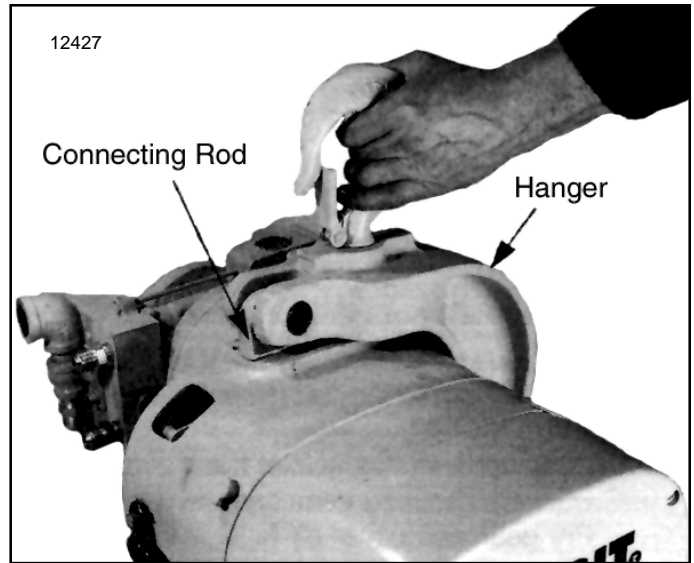
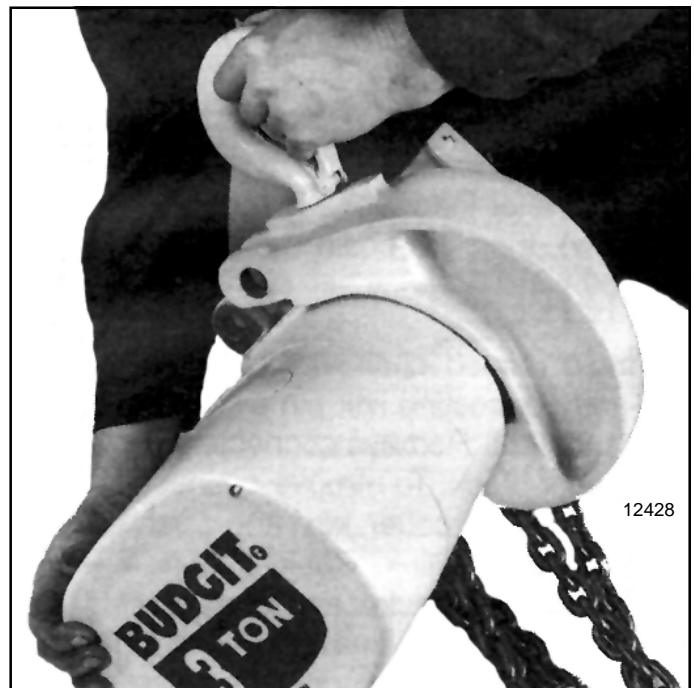
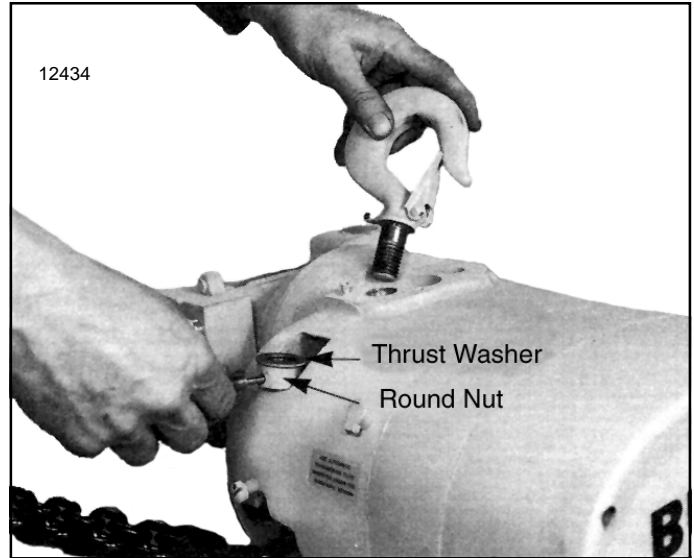

Figure 7-1. 3 Ton Hanger Bracket Connection Pin Removed
Figure 7-2. Removing 3 Ton Hanger Bracket from Hoist Frame
Figure 7-15. Removing Upper Hook and Hook Nut From Hoist Frame (Single Reeved Models)
(4) To remove hanger bracket from triple reeved hoist, remove retaining ring and connecting rod pin (see Figure 7-1). Rotate hoist approximately 45° (see Figure 7-2) and hanger will slip free from hoist frame.
(1) On single reeved models, drive pin from hook nut using drift punch and unscrew upper hook. Nut is reached through access hole in side of hoist frame. See Figure 7-15.
(3) On tripled reeved models, remove retaining ring from connecting rod pin and push connecting rod pin through bracket and connecting rod, releasing hanger (see Figure 7-1). Raise hanger above hoist frame to provide access to hook nut. Rotate hook until grooved pin in nut is visible from end of hanger frame. Using a drift punch, drive grooved pin through hook nut until it hits hanger pocket. Remove drift punch far enough to hold nut from turning and unscrew hook from nut. Thrust washer will fall free.
(4) To remove connecting rod (Figure 7-1) on tripled reeved hoist drive pin from rod using drift punch and unscrew connecting rod. Nut is reached through access hole in side of hoist frame. (See Figure 7-15.)